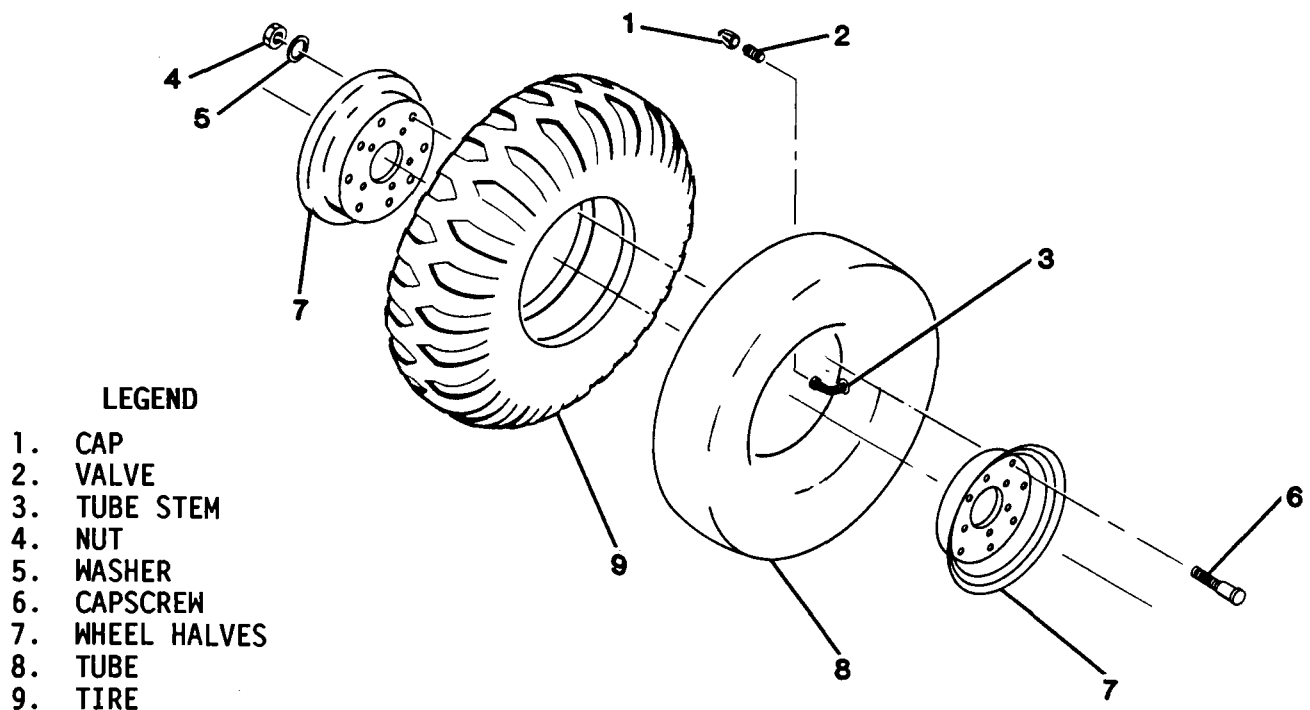

Figure 4-57. Tire and Tube Replacement
4-93. TIRES/TUBES. Maintenance for tires and tubes (figure 4-57) is limited to replacement and repair.
(2) Release air pressure in tube by removing cap (1, figure 4-57) and threaded valve (2) from tube stem (3).
(3) Remove nuts (4), washers (5), and capscrews (6) to separate wheel halves (7).
(4) Remove tube (8) from tire (9).